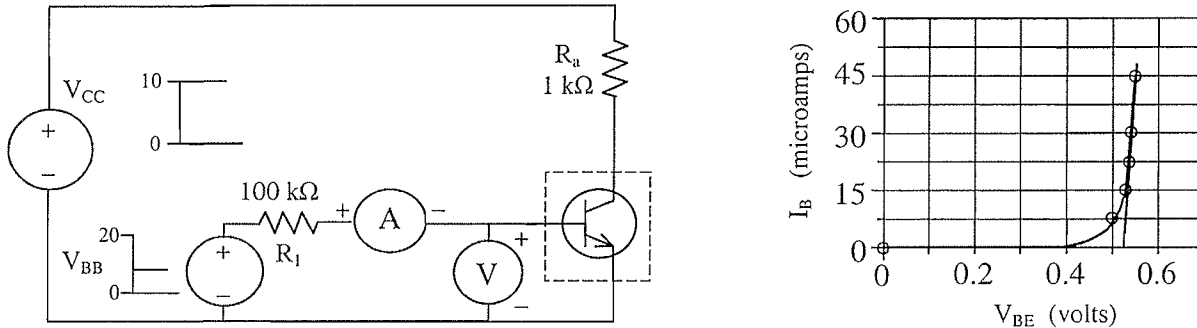

Fig. 5.1. A Test Set to Obtain the Input Characteristics of an NPN Transistor.
The test circuit of Figure 5.1 consists of two loops:
**Determination of  $V_O$ .** Since the desired operating point ( $V_{CE} = 5$  V,  $I_C = 5$  mA) lies on the curve for a constant base current of  $33 \mu\text{A}$  ( $0.033$  mA), the straight line model is drawn tangent to the input curve at that point. See Figure 5.1. This line intersects the  $I_B = 0$  axis at  $V_{BE} = 0.52$  volts. Therefore,  $V_O = 0.52$  volts.
- 7.5 Construct the test set shown in Figure 5.1. Test the 2N3704 used in 7.4 above.